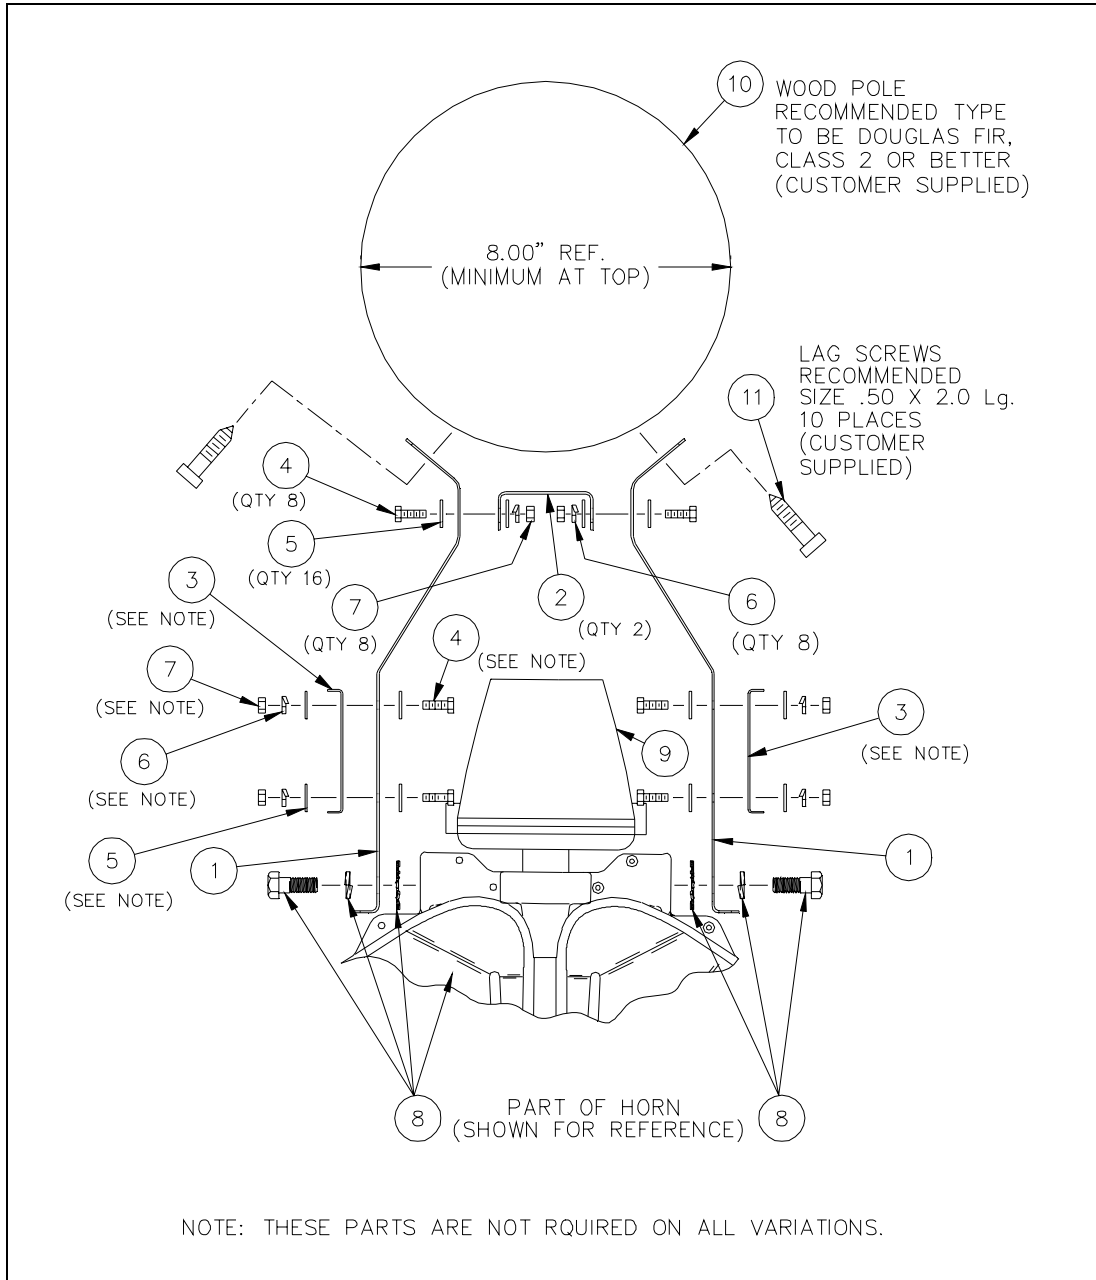
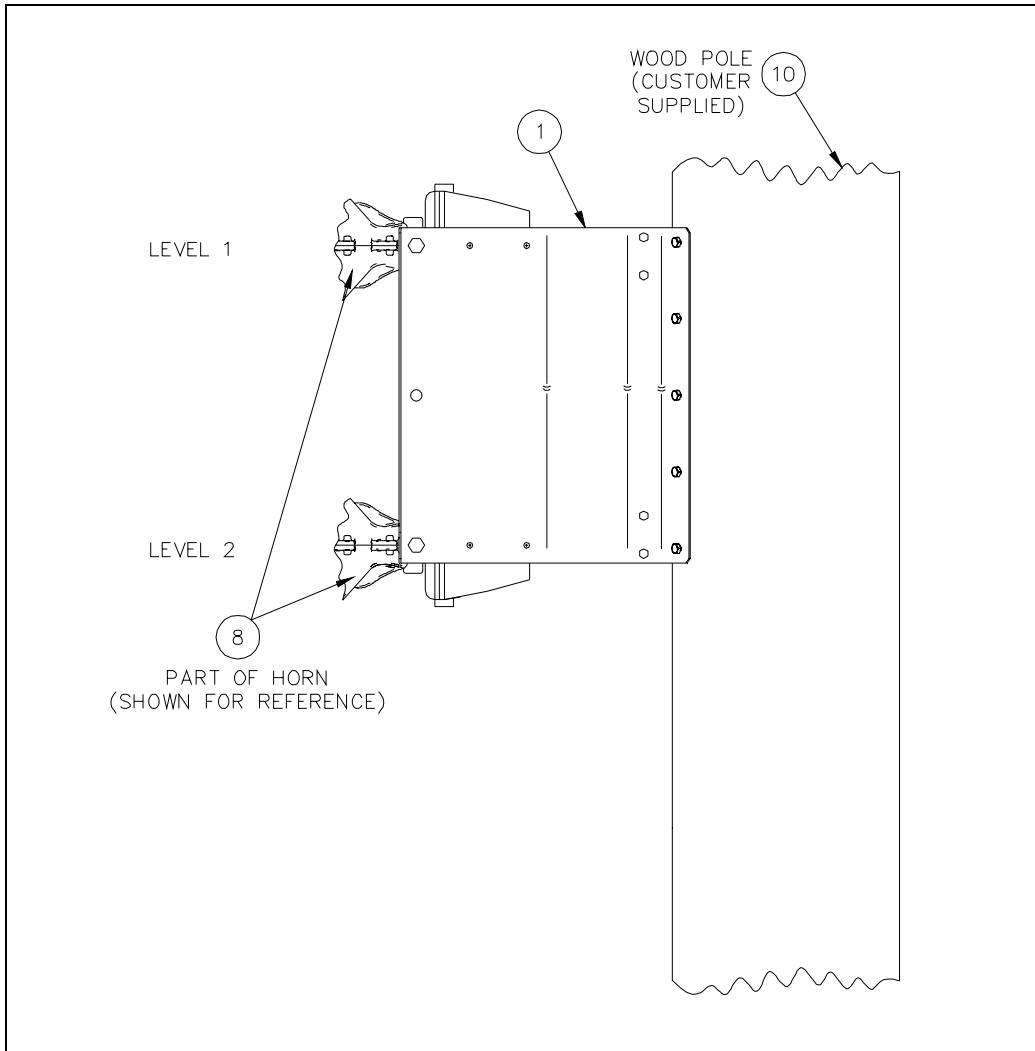
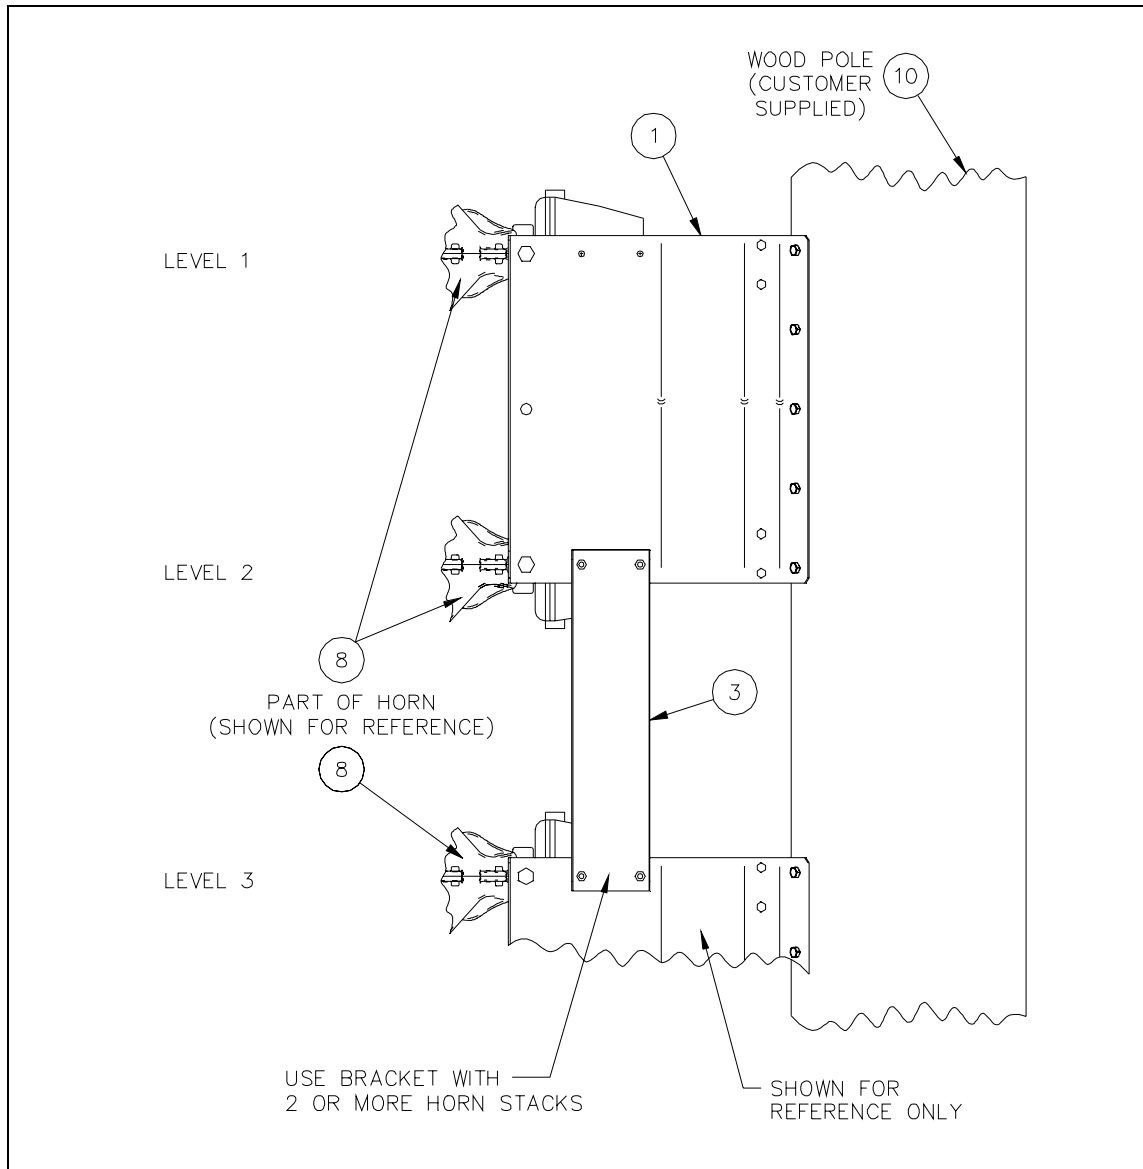

Figure 4. Installation of a single kit with 120° of coverage at two levels.
Figure 5. Showing the use of a single kit to stack one (or two) speaker horns.
Figure 6. Showing the use of two single kits to stack three (or four) speaker horns.
1. For each kit being used, assemble the mounting brackets (Item No. 1) and speaker spacer brackets (Item No. 2) using the screws, washers, and nuts (Item Nos. 4 to 7) as shown in Figure 4. Discard the support brackets (Item No. 3) and any unused hardware.
2. Mount the bracket assembly from step 1 to the pole. See Figure 4 and Figure 5. If multiple kits are being used, mount the additional assemblies.
4. Secure the horn (Item No. 8) to the bracket assembly (see Figure 4 and Figure 5) using the hardware from step 3. Repeat the assembly for each horn.
1. For each kit being used, assemble the mounting brackets (Item No. 1) and speaker spacer brackets (Item No. 2) using screws, washers, and nuts (Item Nos. 4 to 7). See Figure 4.
2. On one of the bracket assemblies, attach the support brackets (Item No. 3) using screws, washers, and nuts (Item Nos. 4 to 7) as shown in Figure 6.
3. Bolt both bracket assemblies together using screws, washers, and nuts (Item Nos. 4 to 7) as shown in Figure 6. Discard any unused hardware.
5. Mount the bracket assemblies from step 1 to the pole. See Figure 4 and Figure 6.